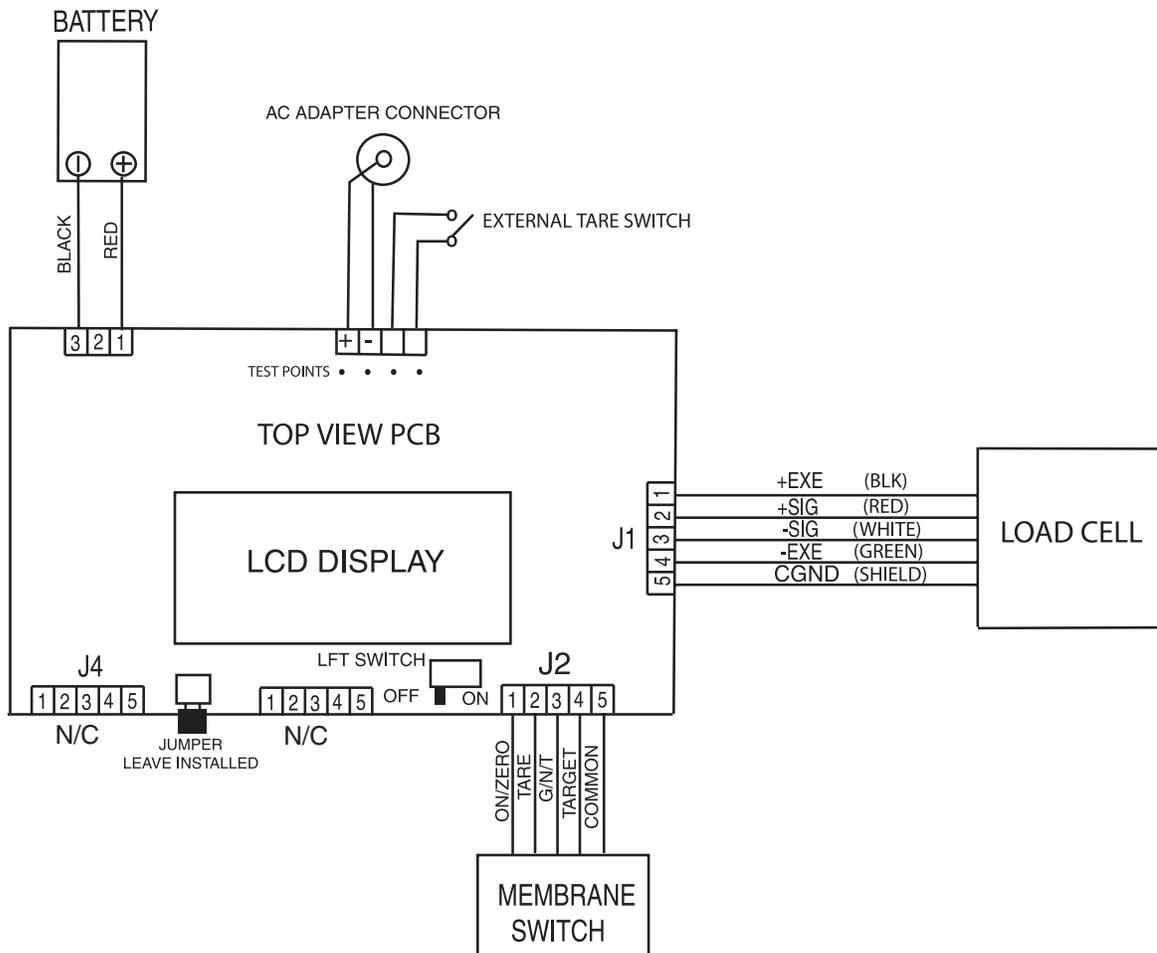

Figure 3-2. FD Series Scales Interconnection Diagram.
DC input connector at the bottom of scale is defective.	Refer to Section 4.1 and open the scale. Reconnect the ac adapter to the scale. Check dc voltage on the Main PC Board or test points as shown in Figure 3-2. Voltage should read between 9 and 14 Volts (power off), and above 9 Volts dc (power on). If voltage is not present, check and replace the Harness. If OK, proceed.
Wiring harness defective or battery clips connection broken.	Refer to section 4.1 and open the scale. Check voltage at battery contacts first. Check dc voltage at pins 1 and 3 of battery connector on the Main PC Board. See Figure 3-2. Voltage should read approximately 6 Volts dc minimum. If voltage is not present at the connector, disconnect the leads from the battery and make a continuity test between the connectors on the Harness to connector pins 1 and 3 on the Main PC Board. Resistance should be 0 ohms for the red lead and 0 ohms for the black lead. If an open condition exists, replace wiring as necessary. If OK, proceed.
LFT lock switch is in the locked position and/or	Set LFT lock switch to unlocked position (see Figure 3-2) and/or
2. Perform procedure Section 4.1 and remove Top Housing. Plug the AC Adapter into the scale and measure the test points for the AC connector, see Figure 3-2. The output voltage should be 9 Volts dc minimum, and 14 Volts dc maximum. If the voltage is below or above these readings, replace the Adapter.
2. Solder contacts located above connector J1 can be used as measuring points. See Figure 3-2.
5. Refer to Figure 3-2, Interconnection Diagram which illustrates the interconnections to the Main PC Board and is shown as a top view.
8. Measure incoming power from the AC Adapter connector shown in Figure 3-2. The voltage should read between 9 and 14 volts dc with power off and above 9 Volts dc with power on.
4. Disconnect the Load Cell cable from connector J1 on the main PC Board. Refer to Figure 3-2 for location.